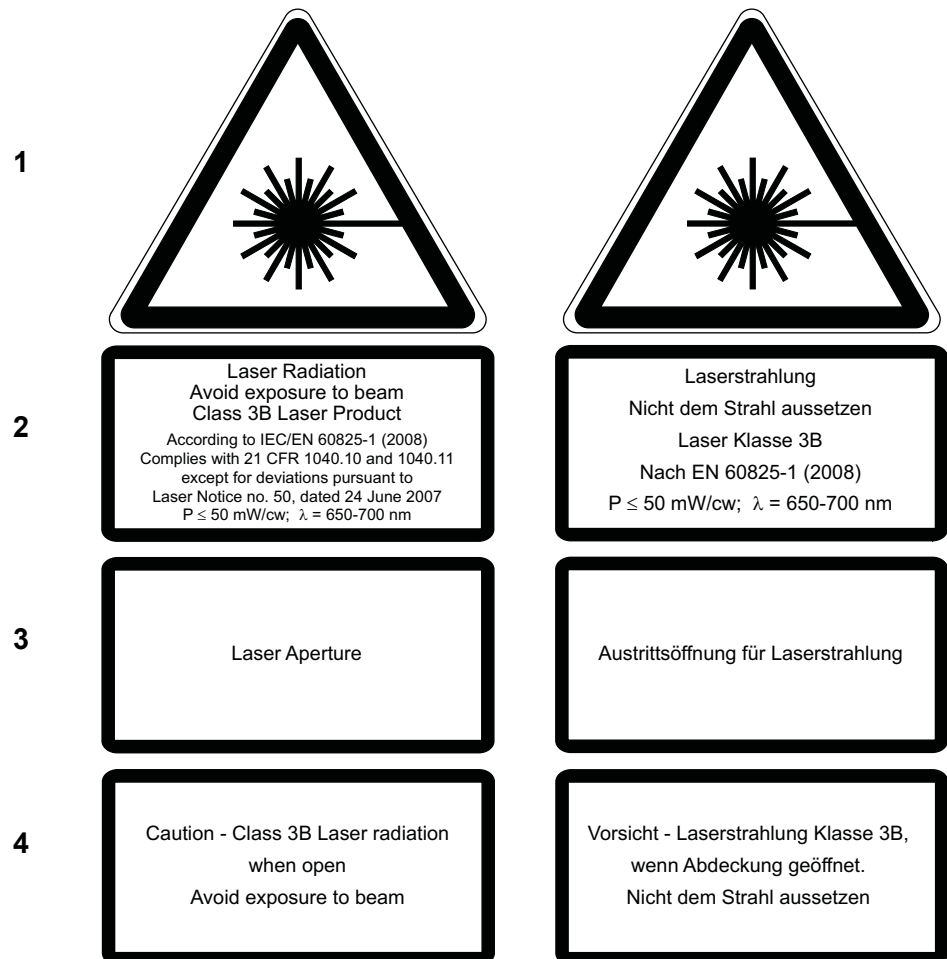

Figure 1.1: Laser warning labels for the sensor
Warning labels The laser warning labels for the sensor are shown in FIGURE 1.1. For the countries in the European Union (EU), labels **2** to **4** are affixed in the language of the customer's country (see right-hand-side).